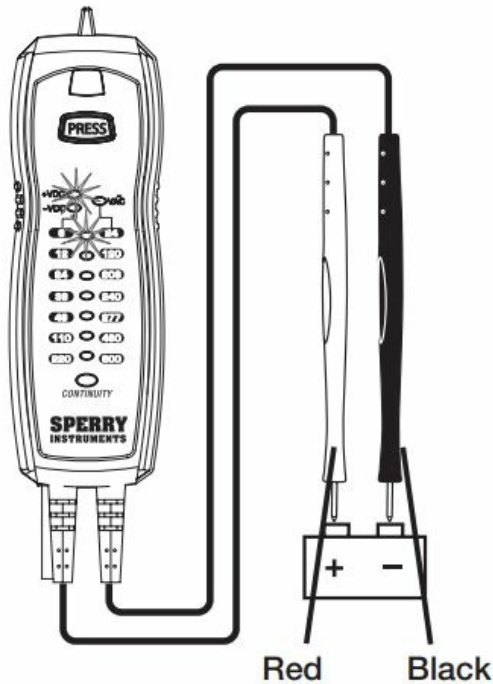

Fig. 3
- If the red test lead is on the negative contact the -VDC light will illuminate. Fig. 3